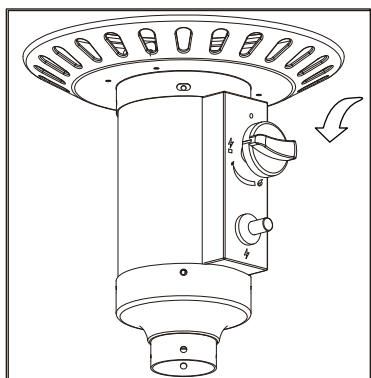

Figure 3
- Push in control knob and turn counterclockwise to "PILOT" (  ) (Figure 3).